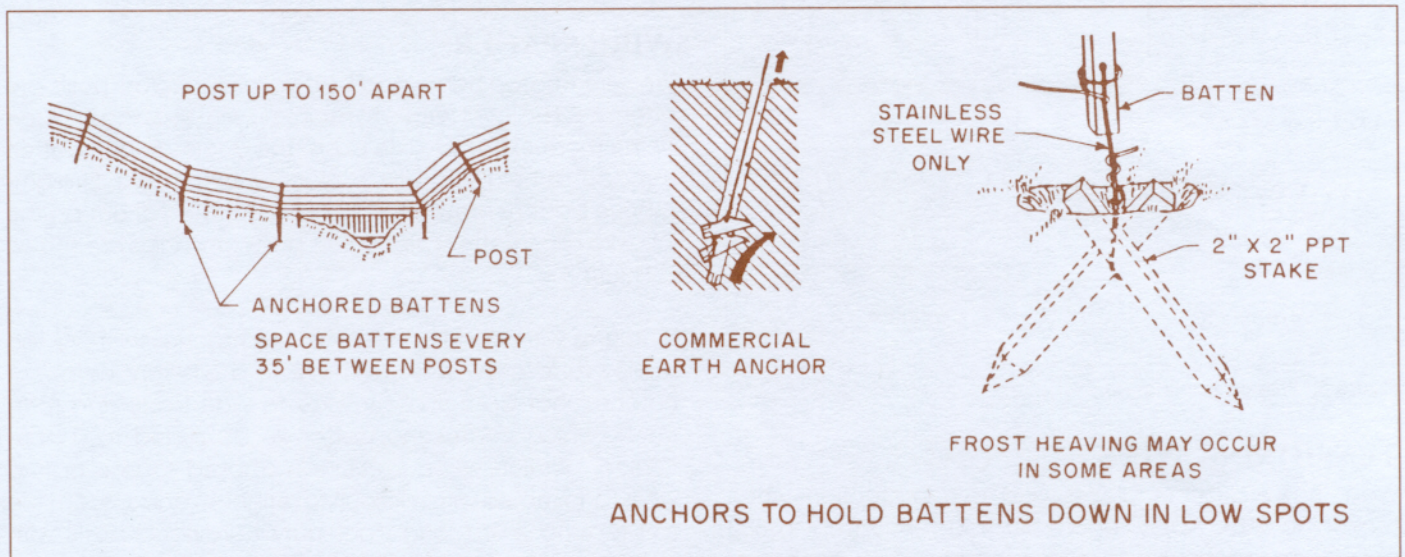

Figure 9. Batten Spacing and Anchoring for Uneven Ground
fences or reused in temporary fences, particularly electric ones. Light duty (LD) or heavy duty (HD) fiber glass T-posts, while not as rigid as hardwood battens, may either be set in or suspended above the ground. If battens or fiber glass posts are used on uneven ground, they should be anchored to maintain fence system integrity. Figure 9 shows post and batten spacing and anchoring on uneven ground.